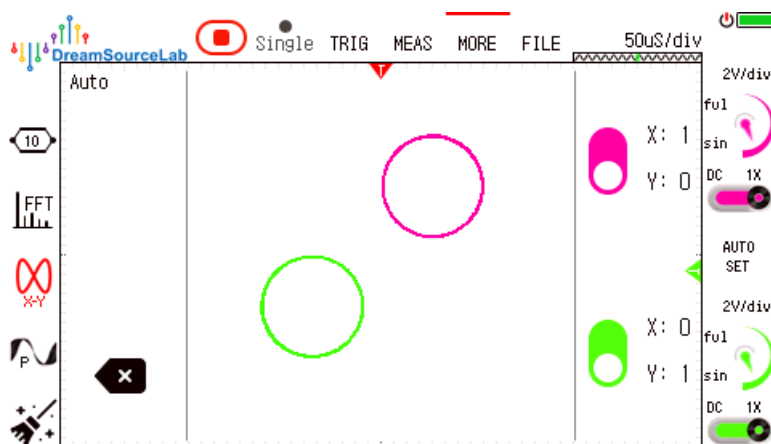

Figure 3-8
- ① Set the attenuation ratio of Channel 0 and Channel 1, as well as the probe attenuation ratio, to 1X.
- ② Connect the probe of Channel 0 to the input end of the circuit network, and connect the probe of Channel 1 to the output end of the circuit network.
- ③ Press the "Auto" button, and adjust the vertical sensitivity to make the amplitudes of the two signals roughly equal.
- ④ Select the "X-Y" mode under the "More" menu, and the display result will be shown as in Figure 3-8.